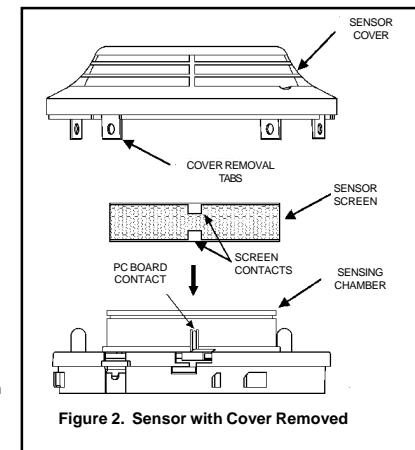

Figure 2. Sensor with Cover Removed
- 2 Remove the detector cover (Note: Regulations in some countries may prohibit this operation on ionisation type sensors). Use a small flat blade screwdriver to gently release each of the four cover removal tabs that hold the cover in place. (See Figure 2)